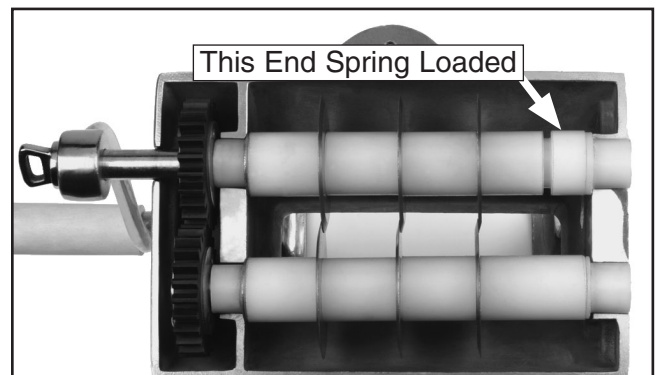

Figure 3. Overhead view of blade shafts.
When removing the crank arm shaft, be aware that the end is spring loaded (see **Figure 3**).
1. Assemble the blade shafts as shown in **Figure 3**. When assembled correctly, the spring pushes the flat parts of the blades together. When replacing the blades on the main shaft (the one connected to the crank handle), make sure the beveled edge of the blades are facing the spring side. On the driven shaft, make sure the beveled sides of the blades are facing the gear side.